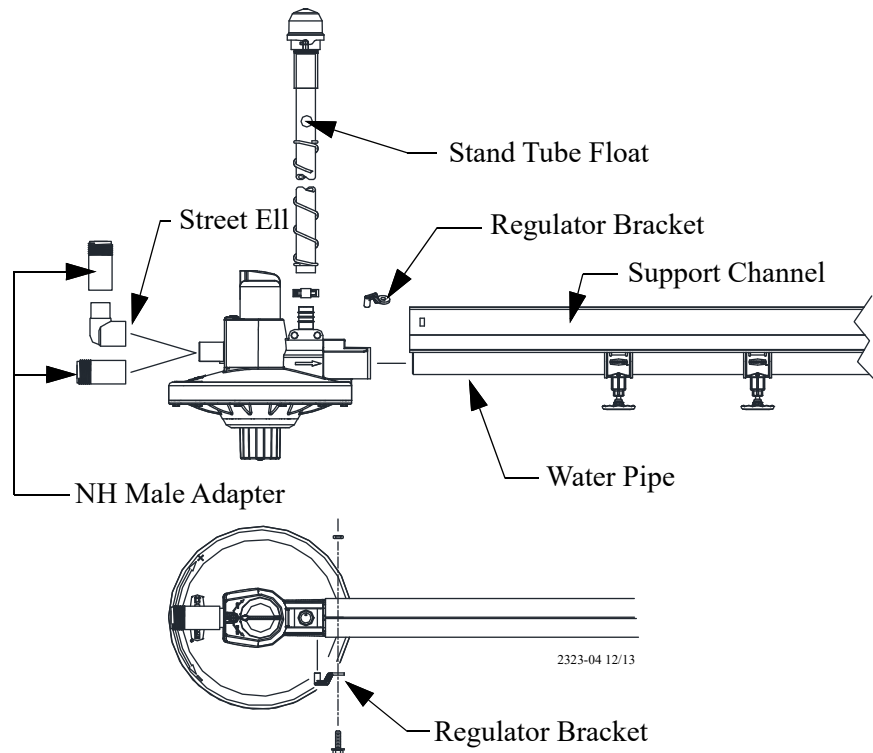

**Figure 28. Outlet Assembly Installation**
Install the outlet assembly, as shown in **Figure 28**.
3. Secure the hanger to the support channel, as shown in **Figure 28**. If the water line was shortened to terminate under a suspension drop line, it may be necessary to drill a hole in the support channel for the 10-24 stainless truss head screw and lock nut. The Stand Tube Bracket may be used as a template to determine proper hole location.